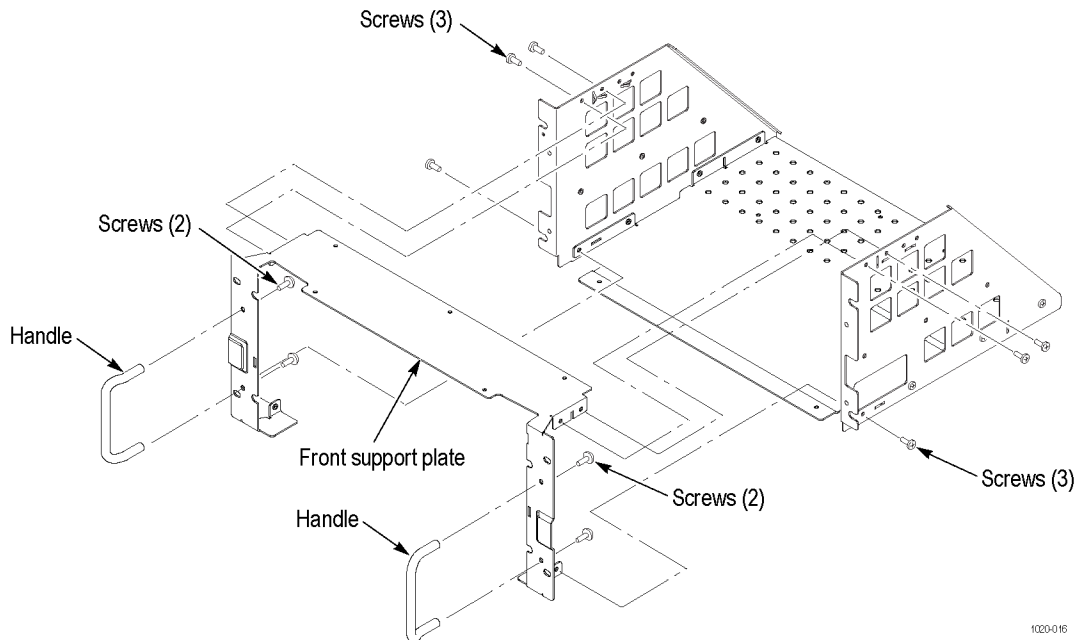

Figure 7: Assembling the rackmount front support plate
2. Fasten the front support plate to the left and right mounting plates with six 6-32 x 0.250 inch pan head T-15 TORX-drive screws, lining up the dimples in the back support plate with the slots in the mounting plates. (See Figure 7.) Tighten screws to 8 in-lb.